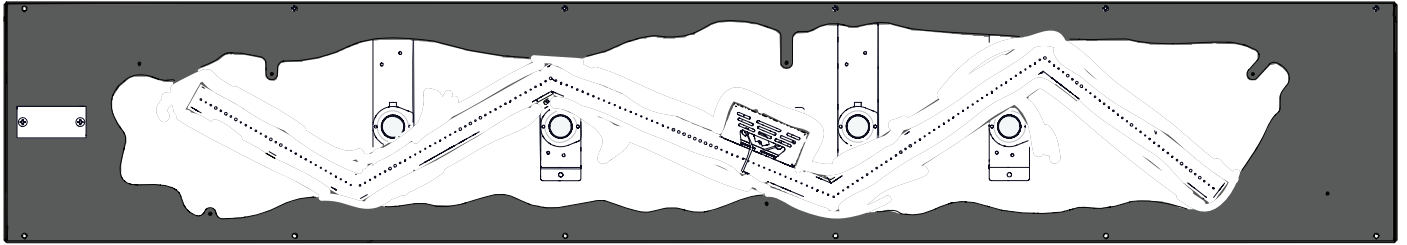

Fig. 3
- The **splinters** should be placed around the outer portion, over the sheet metal tray. Do not cover burner (**Fig. 3**).